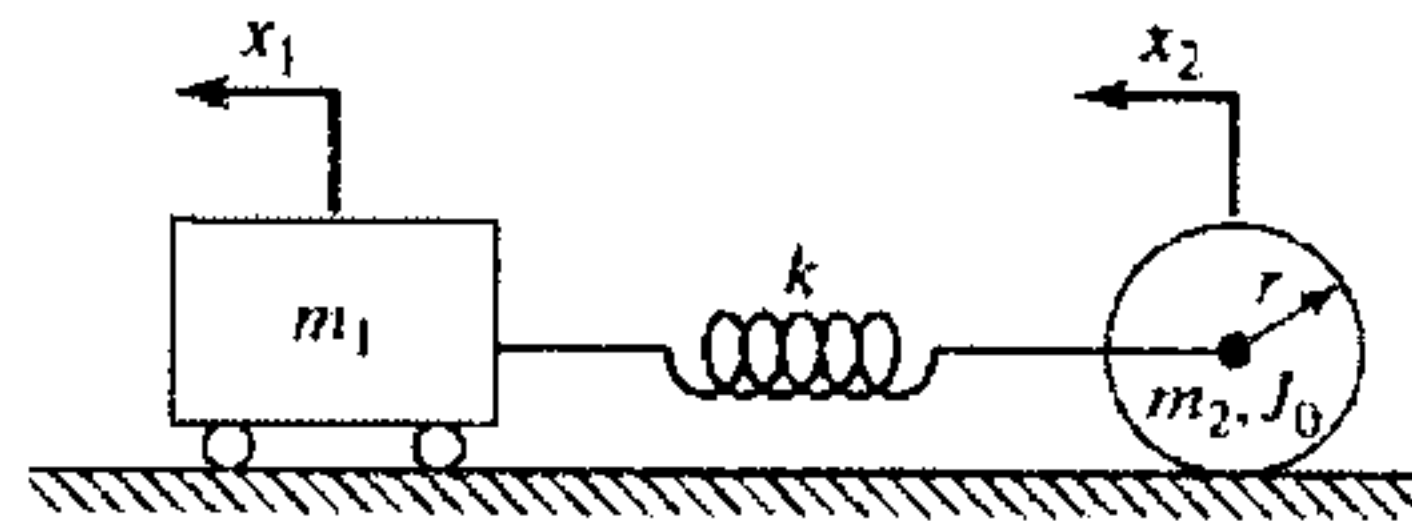

Fig 3
3. Determine the equations of motion and the natural frequencies of the system shown in the Fig 3. 14 M